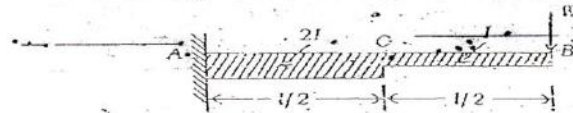

Fig. 2
8. Find the slope and deflection at the free end of a cantilever shown in Fig. 2. Moment of inertia of AC is twice the moment of inertia of BC. 15